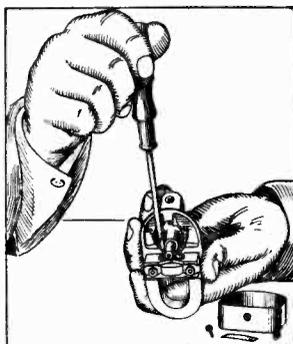

Fig. 28—Adjusting Electric Pickup.
- d. Slide the magnet back onto the under side of the pole pieces as shown in Fig. 28.
- e. Loosen both round head screws in the armature adjusting plate with a small screw driver as shown in Fig. 28.